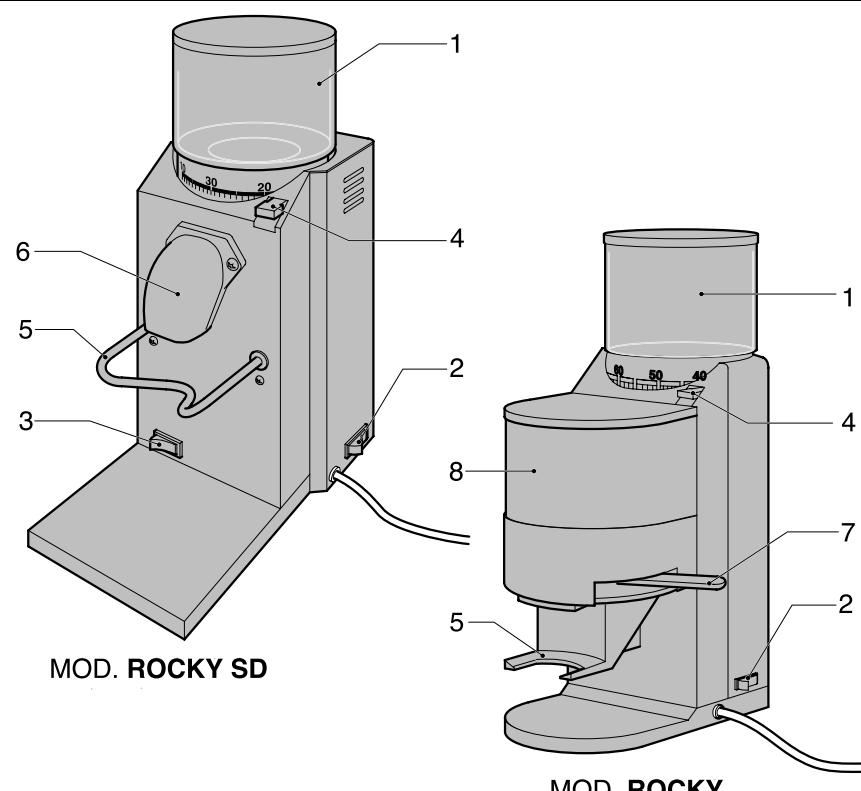

Fig.3
All moving parts are inside the machine panelling. In the bean container 1 (Fig.3) a protection is fixed with screws to protect your hands when filling and cleaning the bean container.
2.5. Specifications and composition (Fig.3)